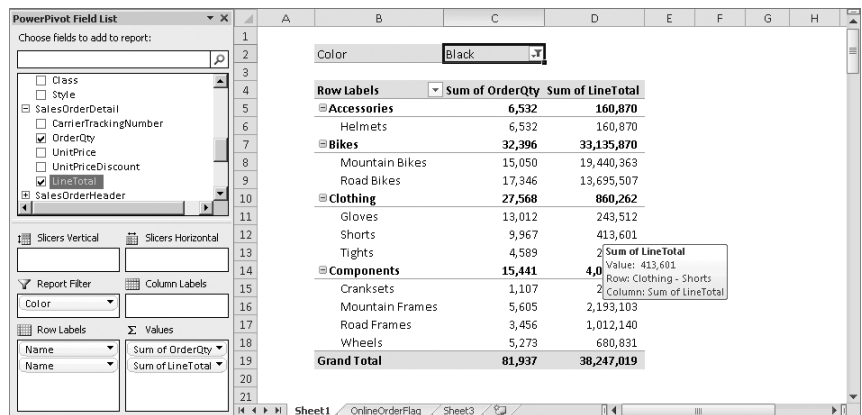

FIGURE 2-27 Sample report with categories and subcategories.
Now that you have empowered the PowerPivot data model with these two tables, you easily can produce complex reports like the one shown in Figure 2-27, in which we mix columns from products, categories, subcategories and orders, letting PowerPivot resolve the complex relationships that make the browsing process possible.
- Both tables (ProductCategory and ProductSubcategory) have the same description for the column name, as you can see in the Row Labels list in Figure 2-27. This is not very user friendly because it is hard to understand whether you correctly put subcategory under category or vice versa (apart, clearly, from the rule of common sense as soon as you see wrong data).